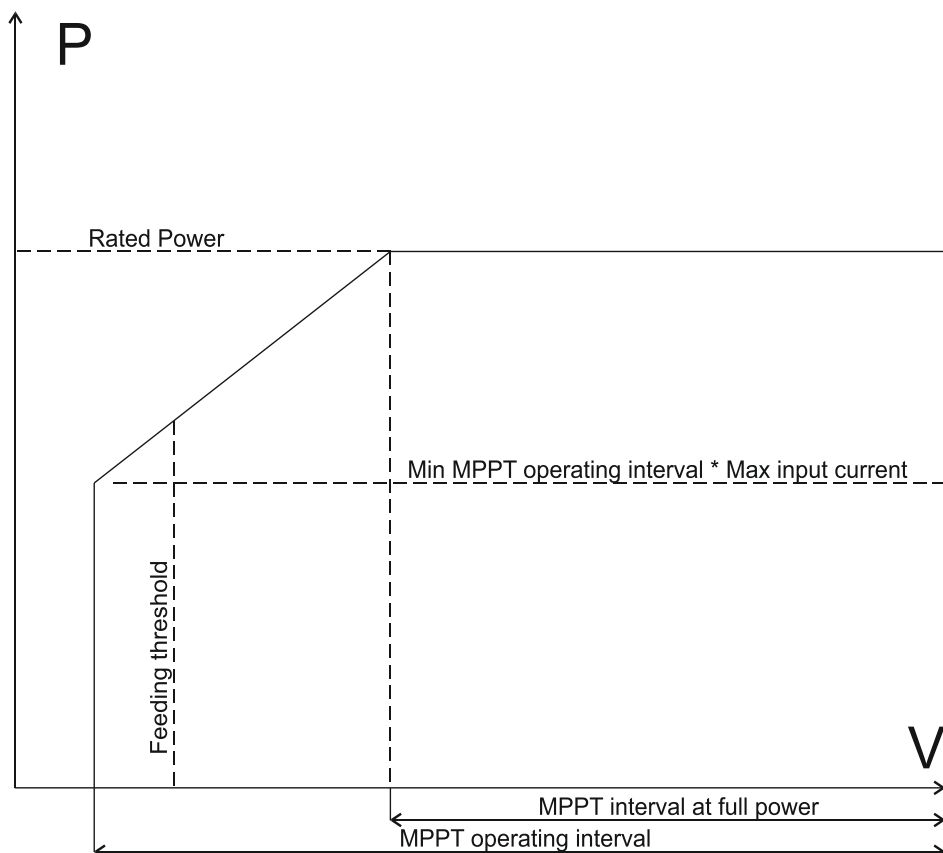

Figure 1: Power limitation depending on the input voltage
- MPP current on the PV generator is higher than the "Max. input current". See "Figure 1" in the Appendix.